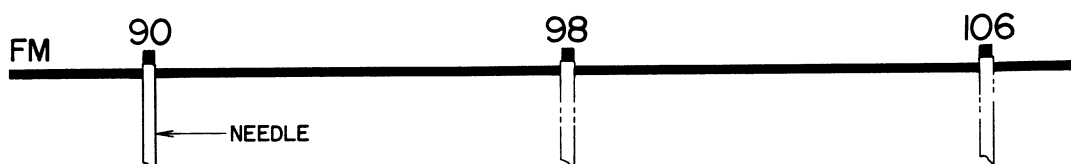

Fig. 10
- 3) Set Receiver SELECTOR to FM AUTO, and set the tuning indicator needle to 90 MHz. (Refer to Fig. 10)
- 5) Set the oscillation frequency of FM S.G. and tuning indicator needle to 106 MHz. (Refer to Fig. 10)
- 3) Set the oscillation frequency of the FM S.G. to 90 MHz (400 Hz, 100% internal modulation), set Receiver Selector to FM-AUTO, and set the tuning indicator needle to 90 MHz. (Refer to Fig. 10)
- 6) Set the oscillation frequency of FM S.G. and tuning indicator needle to 106 MHz. (Refer to Fig. 10)
- 9) Set the oscillation frequency of FM S.G. and the tuning indicator needle to 98 MHz. (Refer to Fig. 10)